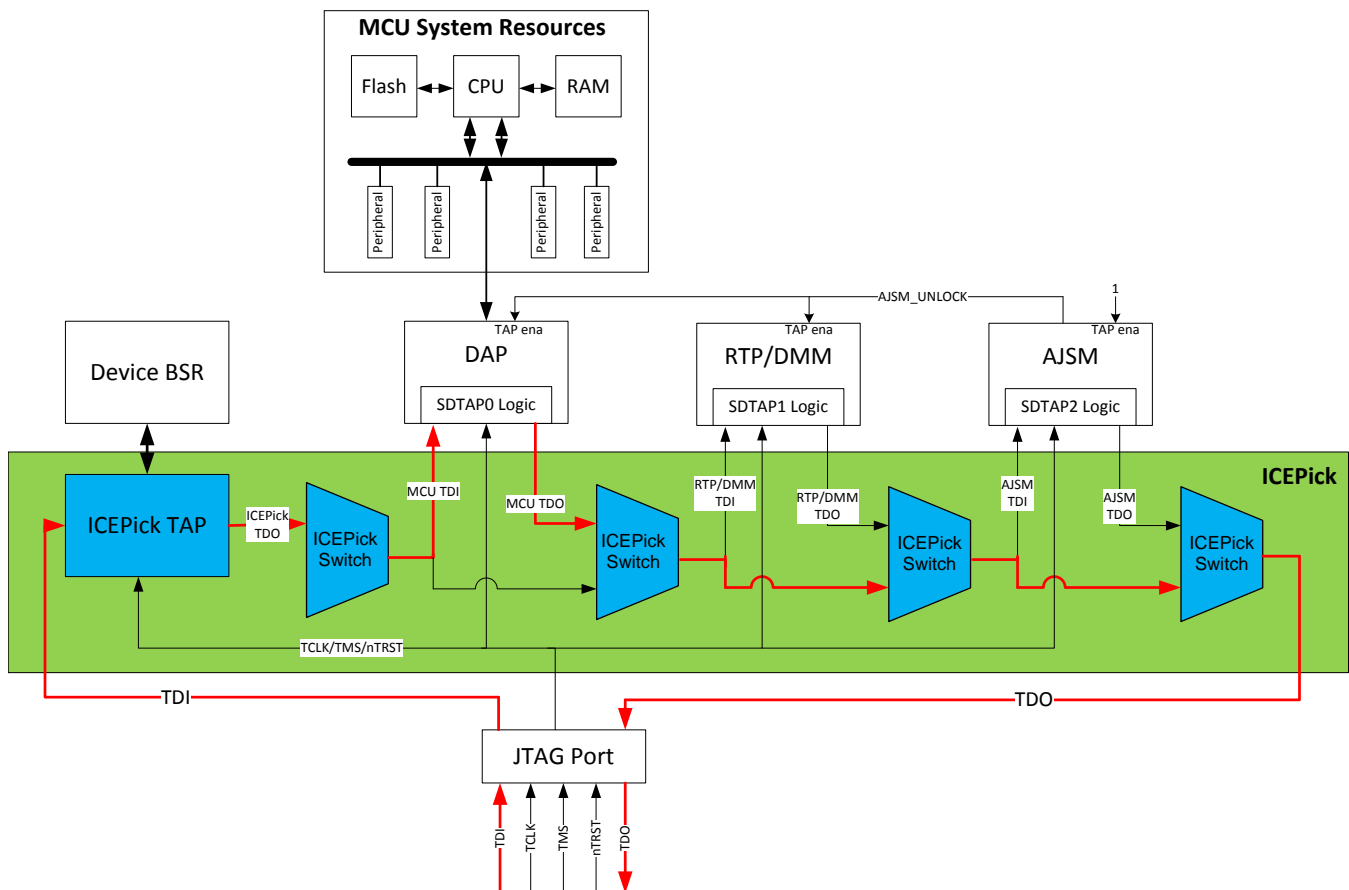

Figure 4. Hercules JTAG Scan After DAP is Selected
11. Starting from here the secondary debug TAP 0 is on the JTAG scan chain (see Figure 4).